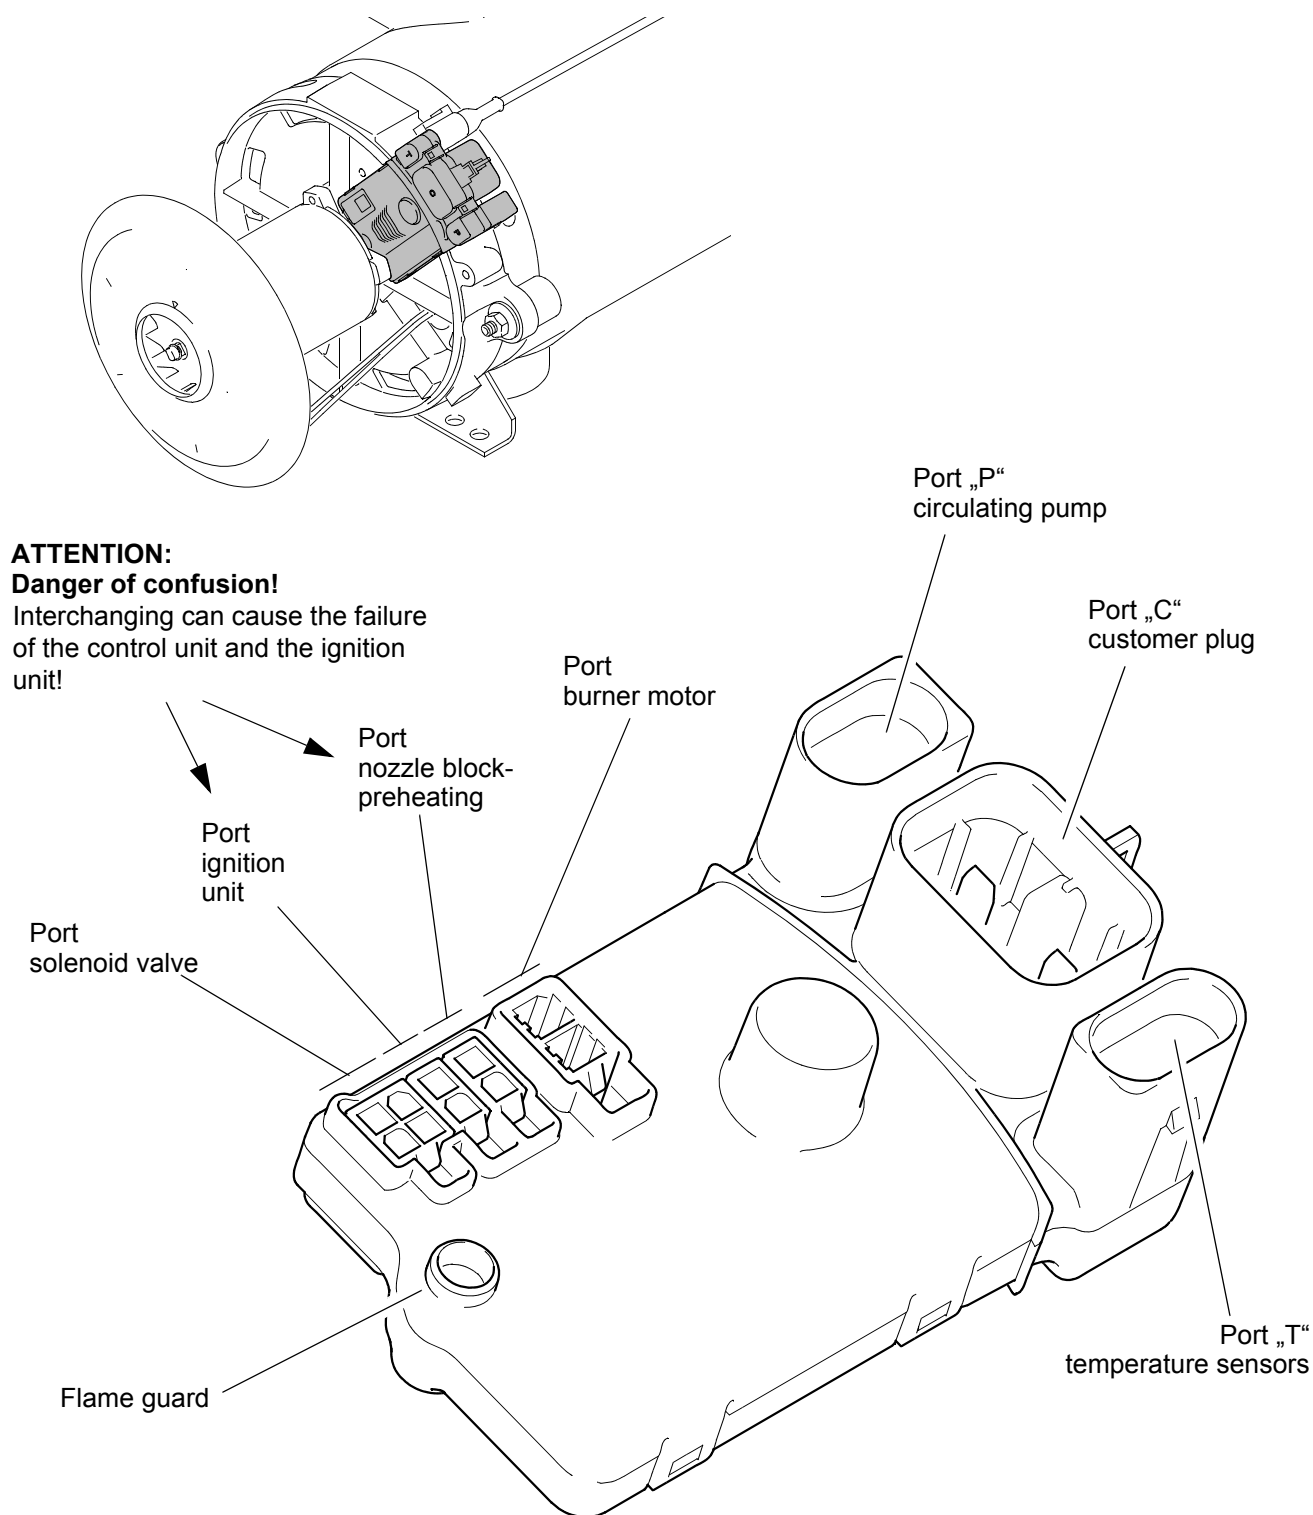

Fig. 303 Control device SG1590
There is the danger of confusion with the port of the nozzle block preheater when plug in (see Fig. 303).
**When connecting, danger of confusion with the electronic ignition unit! See Fig. 303.**